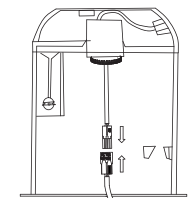

Figure2
**STEP3:** Plug the connector of the retrofit kit into the connector of the socket adapter assembly. (Figure 2)